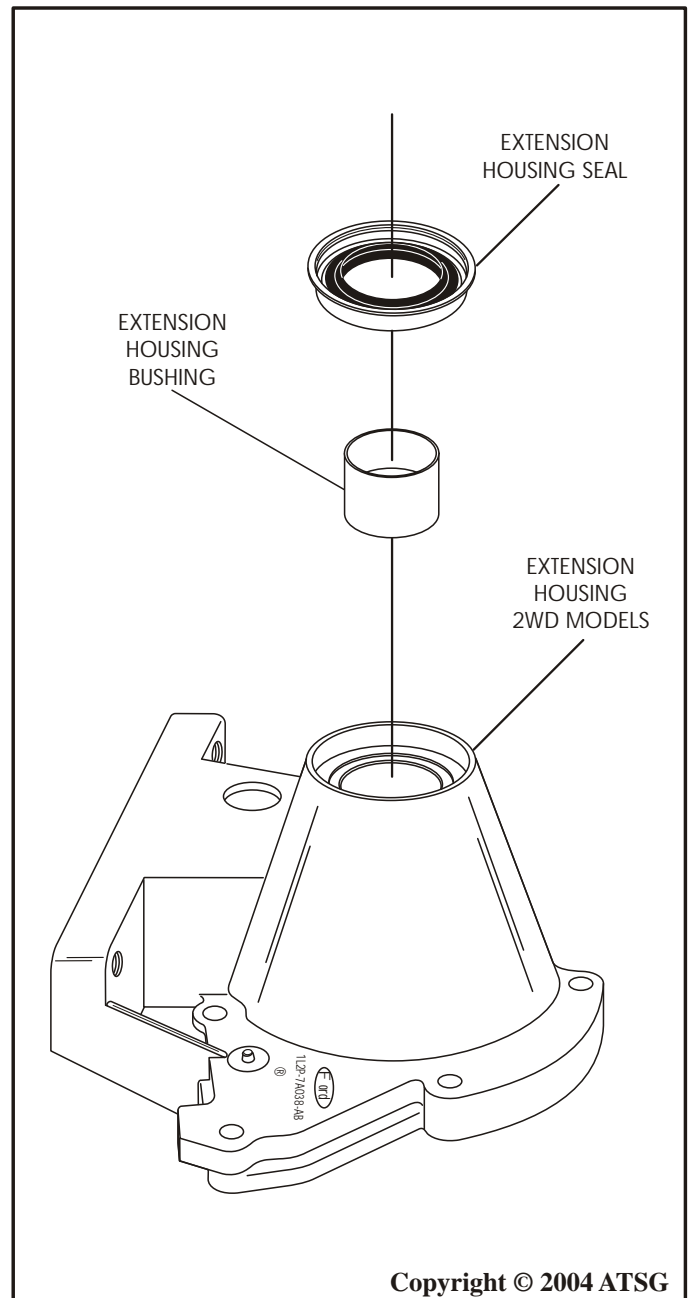

Figure 178
1. Inspect and replace extension housing bushing as necessary using the proper removal tool and bushing driver (See Figure 178).
2. Install a new extension housing yoke seal, as shown in Figure 178, using the proper driver.